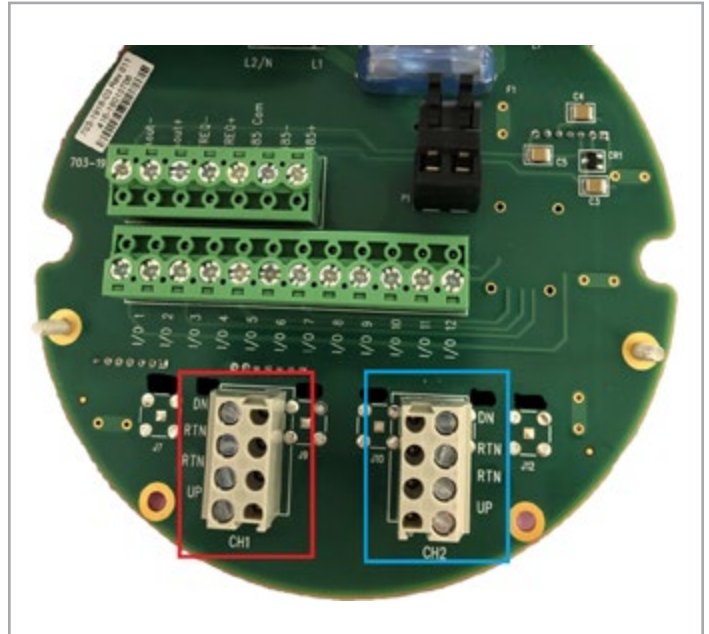

Figure 41: XMT1000, channel back plane
3. At the meter end of the cable secure the red wire of channel one downstream RG62 cable to the CHI (red box in Figure 41) DN terminal of the XMT1000 backplane.
4. Secure Black wire of channel one downstream RG62 cable to the CHI (red box in Figure 41) RTN terminal directly below the DN terminal of the XMT1000 backplane.
5. Secure red wire of channel one upstream RG62 cable to the CHI (red box in Figure 41) UP terminal of the XMT1000 backplane.
6. Secure Black wire of channel one upstream RG62 cable to the CHI (red box in Figure 41) RTN terminal directly above the UP terminal of the XMT1000 backplane.
3. At the meter end of the cable secure the red wire of channel one downstream RG62 cable to the CH1 (red box in Figure 41) DN terminal of the XMT1000 backplane.
4. Secure Black wire of channel one downstream RG62 cable to the CH1 (red box in Figure 41) RTN terminal directly below the DN terminal of the XMT1000 backplane.
5. Secure red wire of channel one upstream RG62 cable to the CH1 (red box in Figure 41) UP terminal of the XMT1000 backplane.
6. Secure Black wire of channel one upstream RG62 cable to the CH1 (red box in Figure 41) RTN terminal directly above the UP terminal of the XMT1000 backplane.
7. At the meter end of the cable secure the red wire of channel two downstream RG62 cable to the CH2 (blue box in Figure 41) DN terminal of the XMT1000 backplane.
8. Secure Black wire of channel two downstream RG62 cable to the CH2 (blue box in Figure 41) RTN terminal directly below the DN terminal of the XMT1000 backplane.
9. Secure red wire of channel two upstream RG62 cable to the CH2 (blue box in Figure 41) UP terminal of the XMT1000 backplane.
10. Secure Black wire of channel two upstream RG62 cable to the CH2 (blue box in Figure 41) RTN terminal directly above the UP terminal of the XMT1000 backplane.